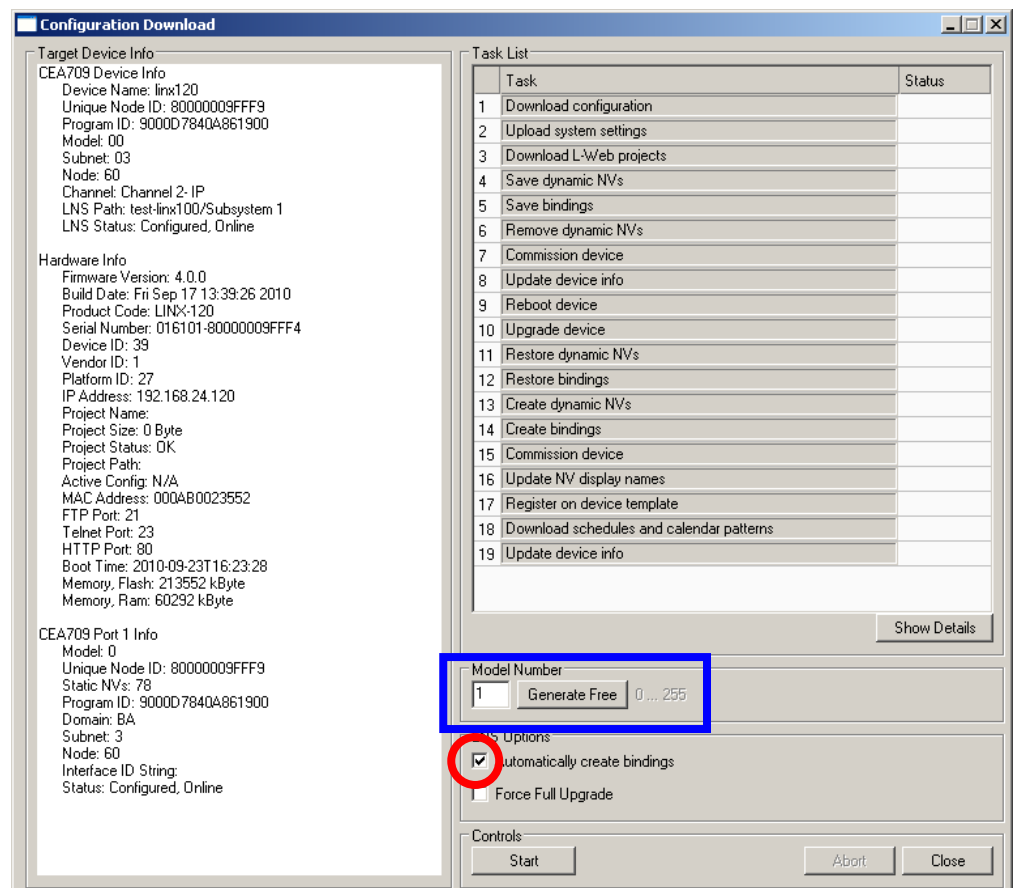

Figure 104: Configuration Download Dialog via LNS.
2. If no bindings shall be generated, deselect the **Automatically create bindings** checkbox indicated by the red circle in Figure 104.